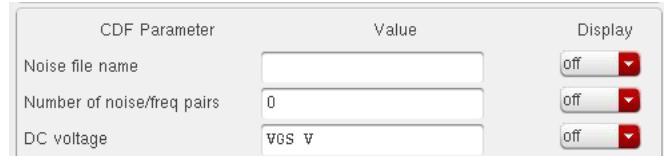

Figure 7: DC source parameter setup.
10. Edit each of your voltage sources (click on it and press **q**) to specify the DC voltage as a variable as shown in Fig. 7. In that way, the voltage of your sources are defined as global variables and you will be able to directly modify them later in your simulation.